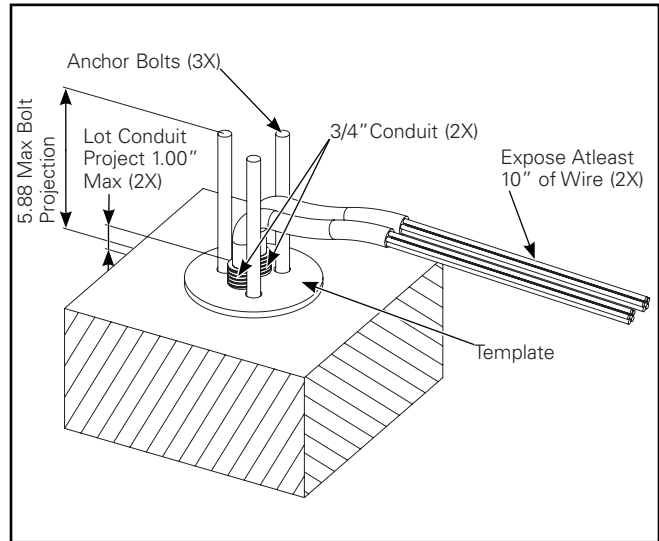

Figure 1.
How to Install (Figure 1. - Figure 4.)
1. Install foundation anchors and conduit using supplied anchor template as illustrated. (Figure 1.)